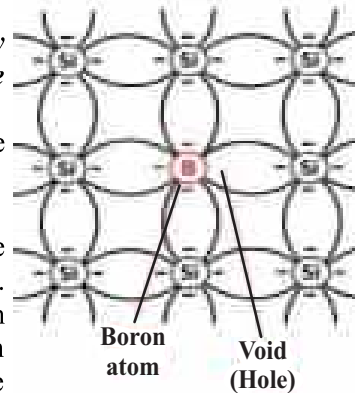

Figure 22.3 P-type
If element of group-III (tri-valent) is added into the crystal lattice of the semiconductor as shown in figure 22.3. Common acceptor impurities include boron (B) or gallium (Ga). These impurity atoms have one fewer valence electron than the semiconductor material, creating "holes" in the crystal lattice where electrons can move.